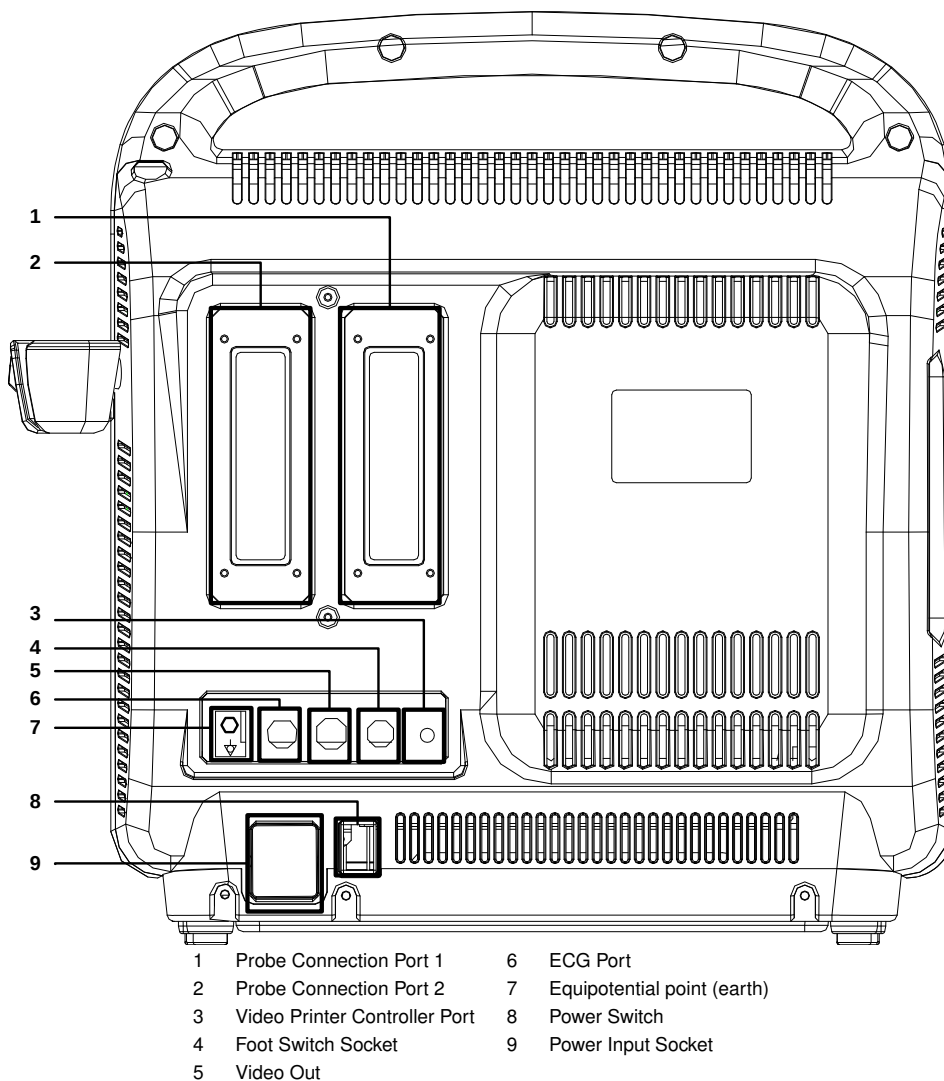

Figure 2.2: Rear view
- This system supports both S-Video (2 in **Figure 2.1**) and composite video (5 in **Figure 2.2**) output.